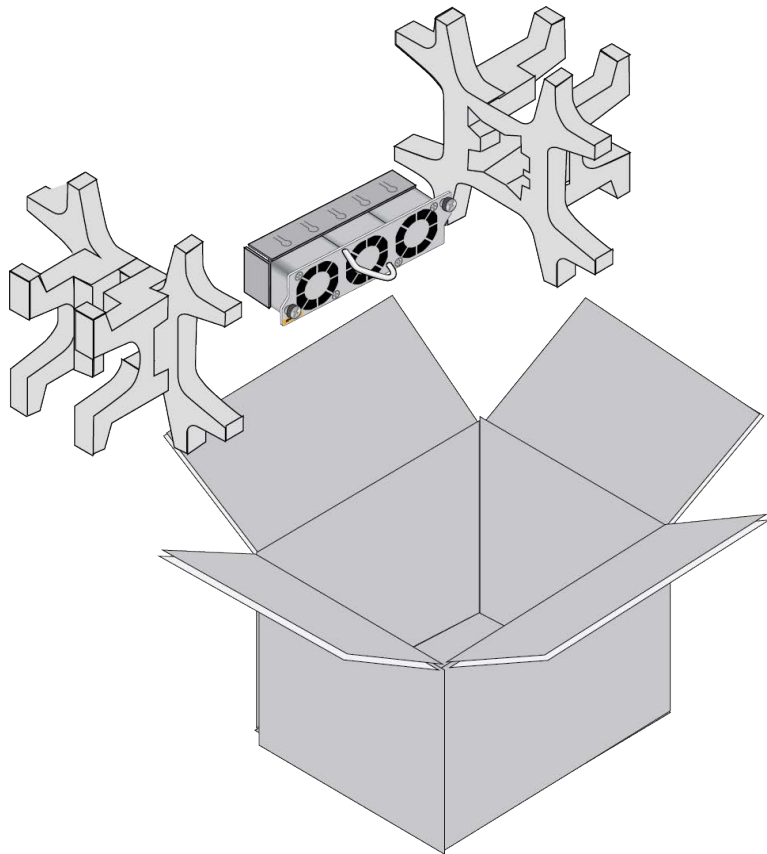

Figure 143. Removing the Fan Module from the Shipping Container
1. Remove the new fan module from its shipping box. Refer to Figure 143.